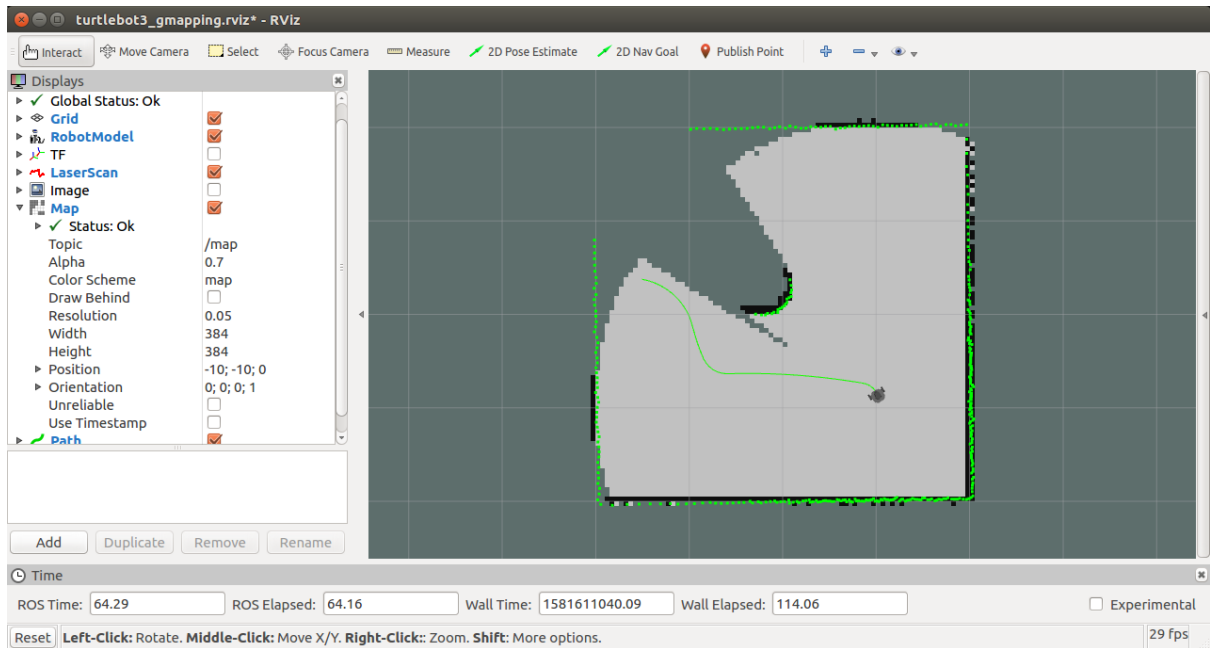

Figure 11: RViz window showing RRT with SLAM
- (c) The `get_velocity` method generates a velocity vector based on a robot position and a set of points which represent the desired trajectory of the robot. First, it finds the point on the path which is closest to the position of the robot. The subsequent point on the path is the direction in which the velocity is, since we want to make sure the robot gets closer to the desired path. If the closest point is the point at the end of the path, then the vector is just in that direction (avoiding an index being out of bounds). Figure 11 shows how a path is generated by rrt, which the robot then follows using `get_velocity` and `feedback_linearized`